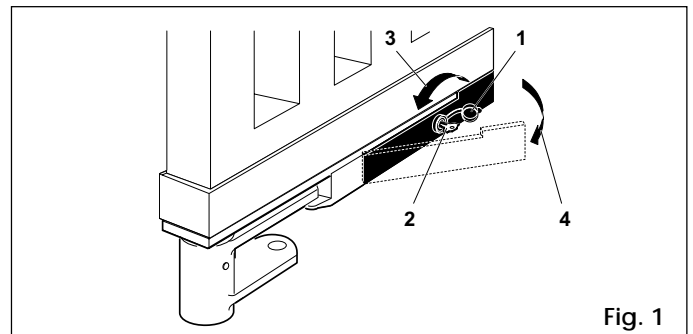

Fig. 1
At regular intervals, check the structure of the gate and make sure that the hinges are in perfect working order. Periodically lubricate the pivot and ball in the support bracket, through the lubricating bore shown in fig. 1 - ref. 13. Make sure that the pivots of the lever systems, the pinion and the engagement of the lock on the locking bracket (fig. 1 - ref. 5) are always well lubricated, and check the efficiency of the manual operation.
- open the lid of the lock (fig. 1-ref. 1);
- insert the release key in the lock (fig. 1-ref. 2);
- turn the key in the direction of the post, as far as it will go (fig. 1-ref. 3);
- pull the lever out (fig. 1-ref. 4);